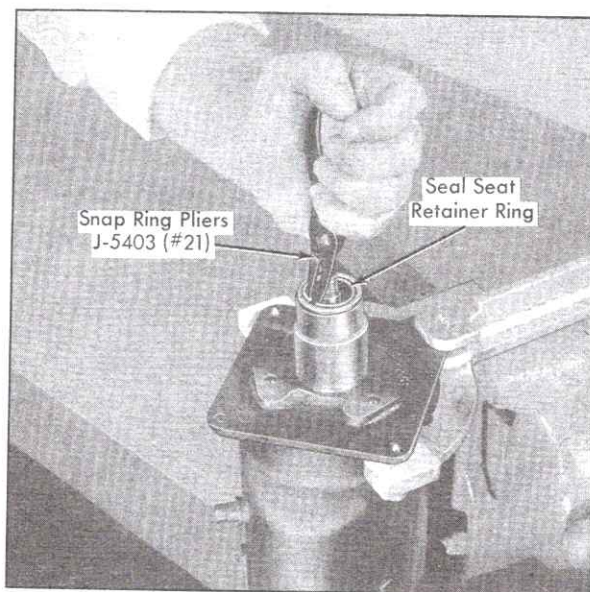

Fig. 1-41 Removing Seal Seat Retainer Ring
4. Remove seal seat retainer ring using Snap Ring Pliers, J-5403 (#21), Fig. 1-41.